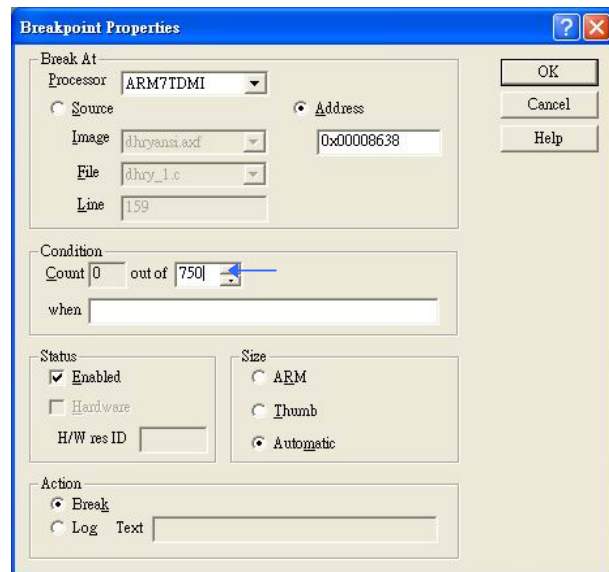

Figure 6. Setting breakpoint details.
- 5.2 Enter **750** in the **out** of field in the **Conditions box**, as shown in Figure 6. This is the number of times execution has to arrive at the breakpoint to trigger it.